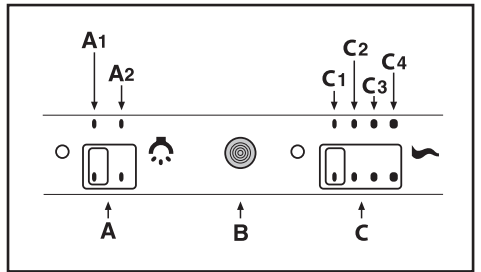

Fig.9
• **Commands slider (Fig.9)** the key symbols are explained below: